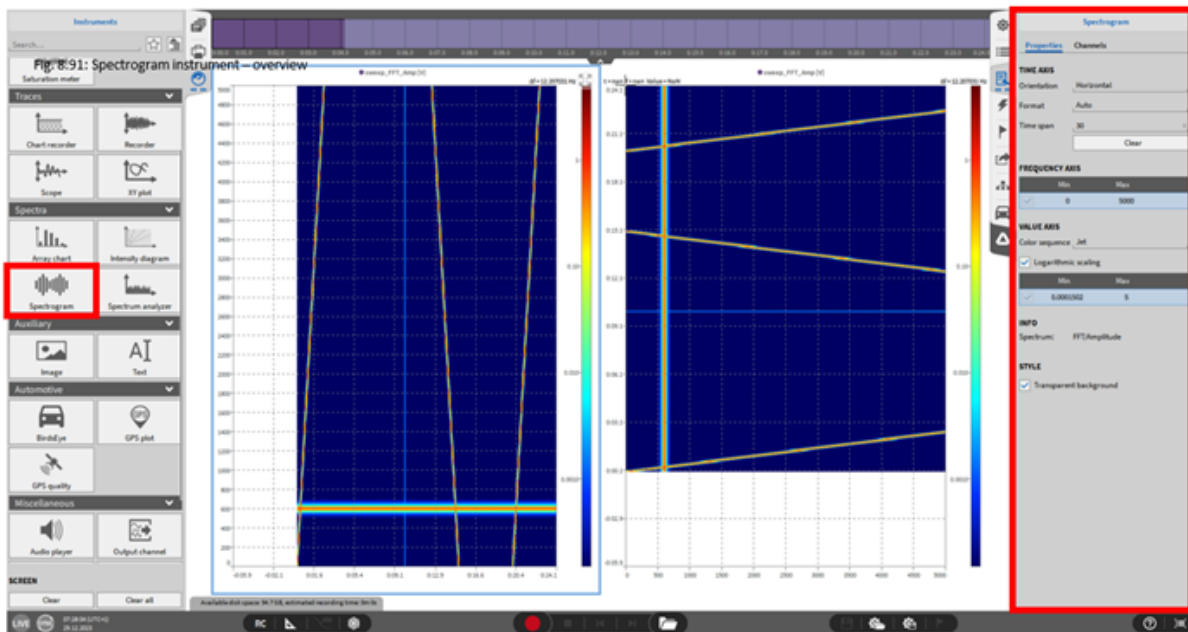

Fig. 8.94: Spectrogram instrument – overview
The elapsed time is displayed on the X-axis, the frequency on the Y-axis and the amplitude of the signal is Color-Coded to the Z-Axis (Left instrument in Fig. 8.94).
- Time Axis – Orientation: *Horizontal* orientation assigns the time axis to the X-axis of the instrument (see left instrument in Fig. 8.94) and *Vertical* orientation assigns the time axis to the Y-axis of the instrument (see right instrument in Fig. 8.94).